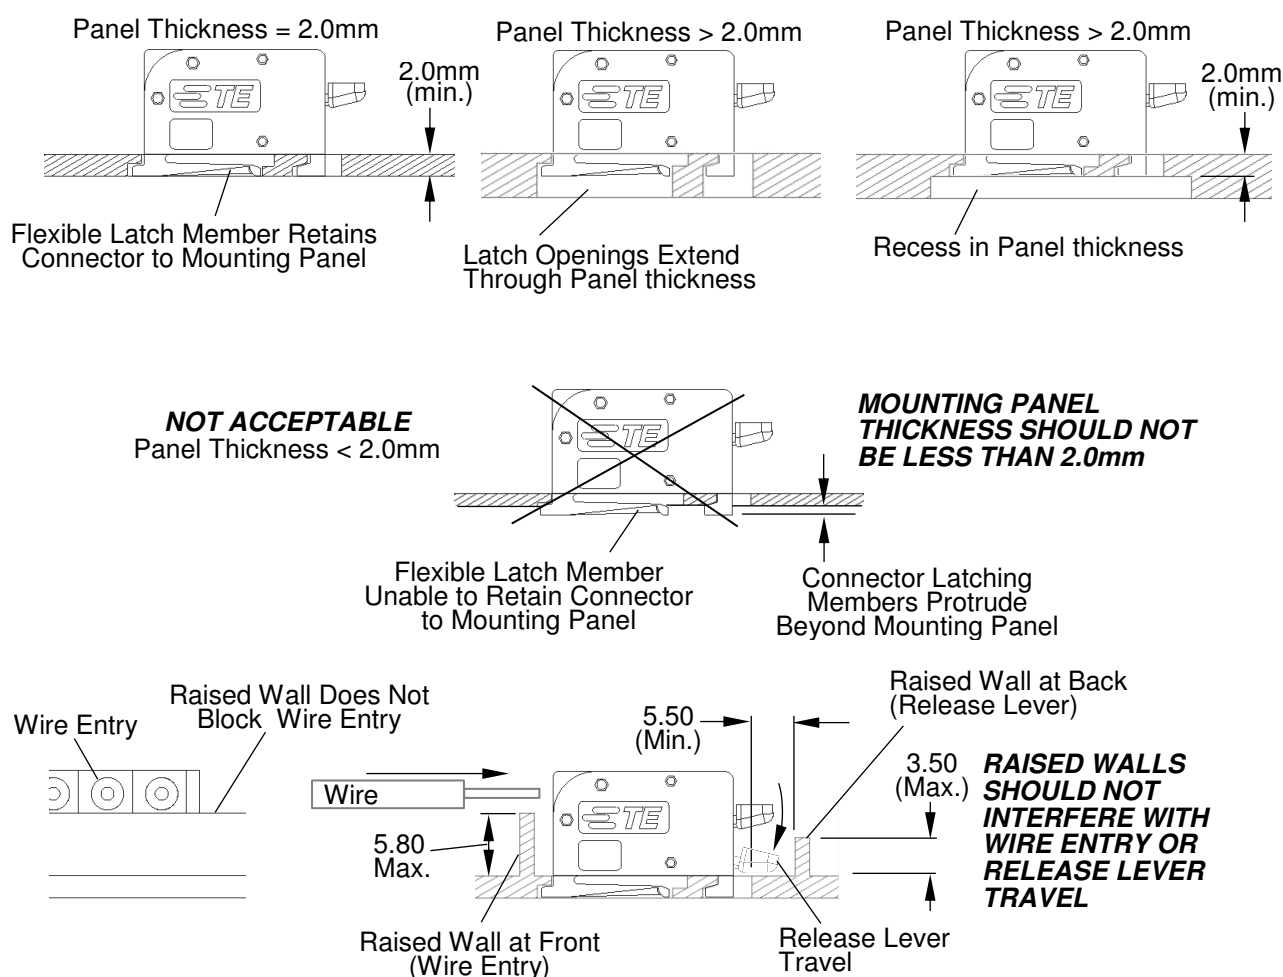

FIGURE 5
- Observe all sizes and clearances in Figure 5.